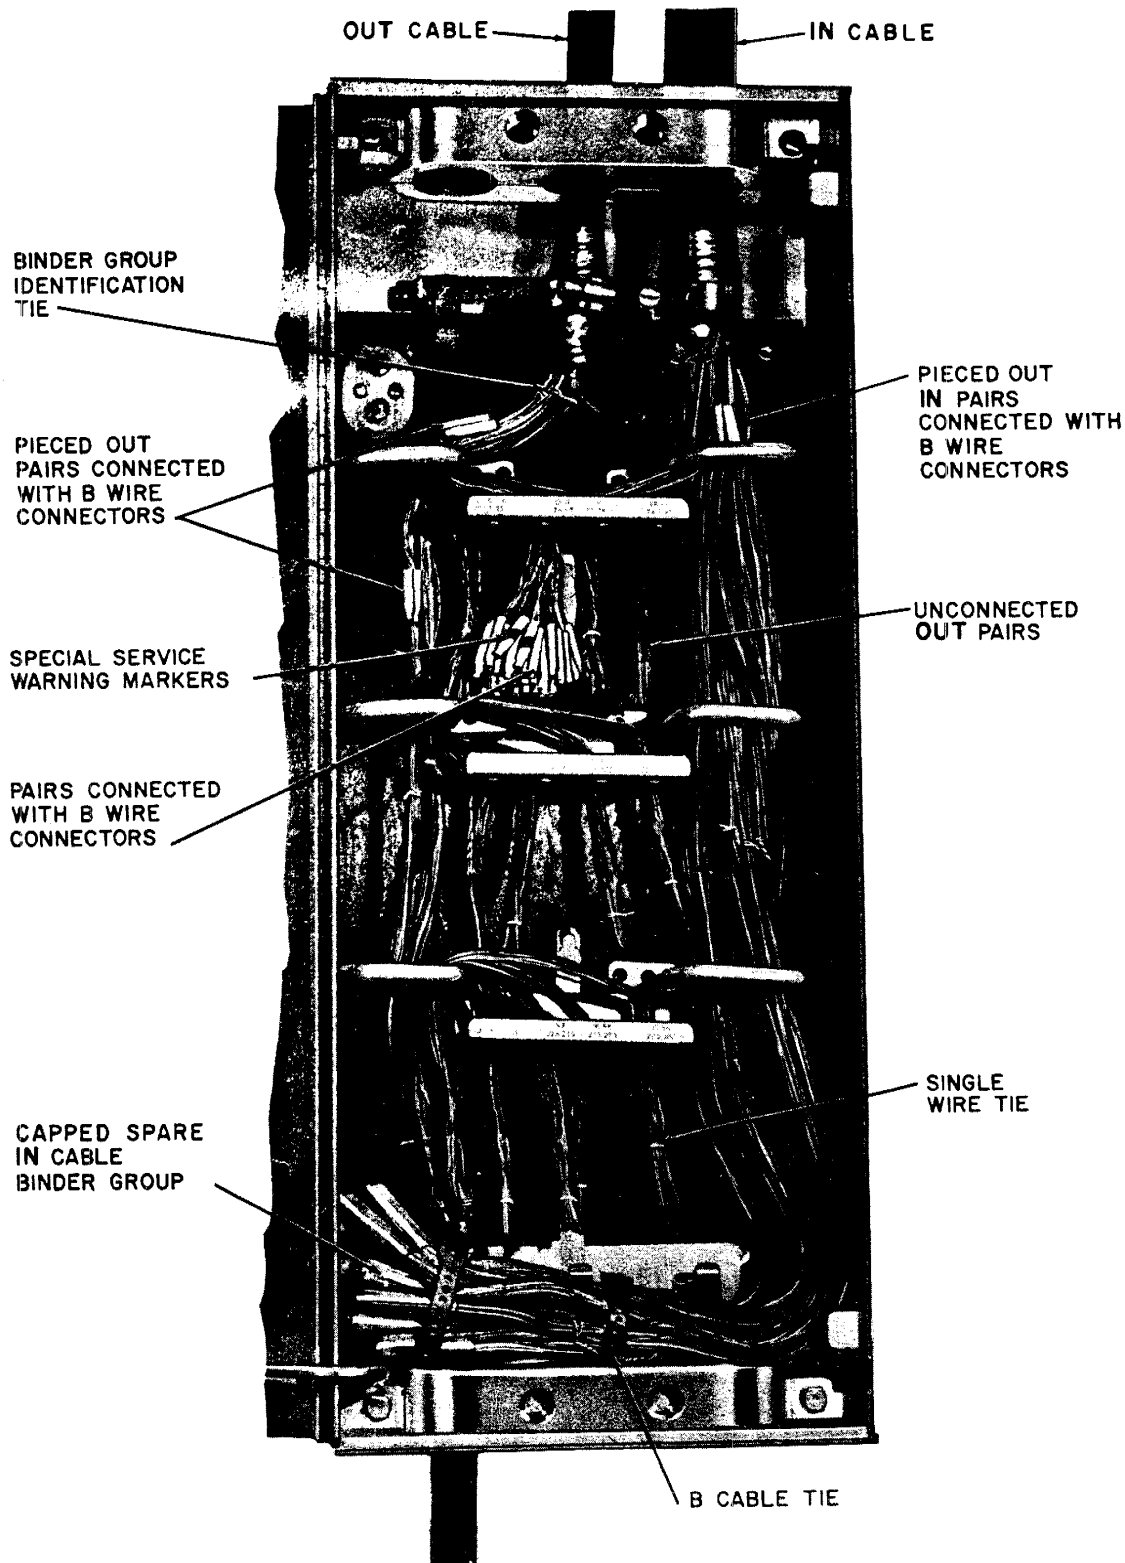
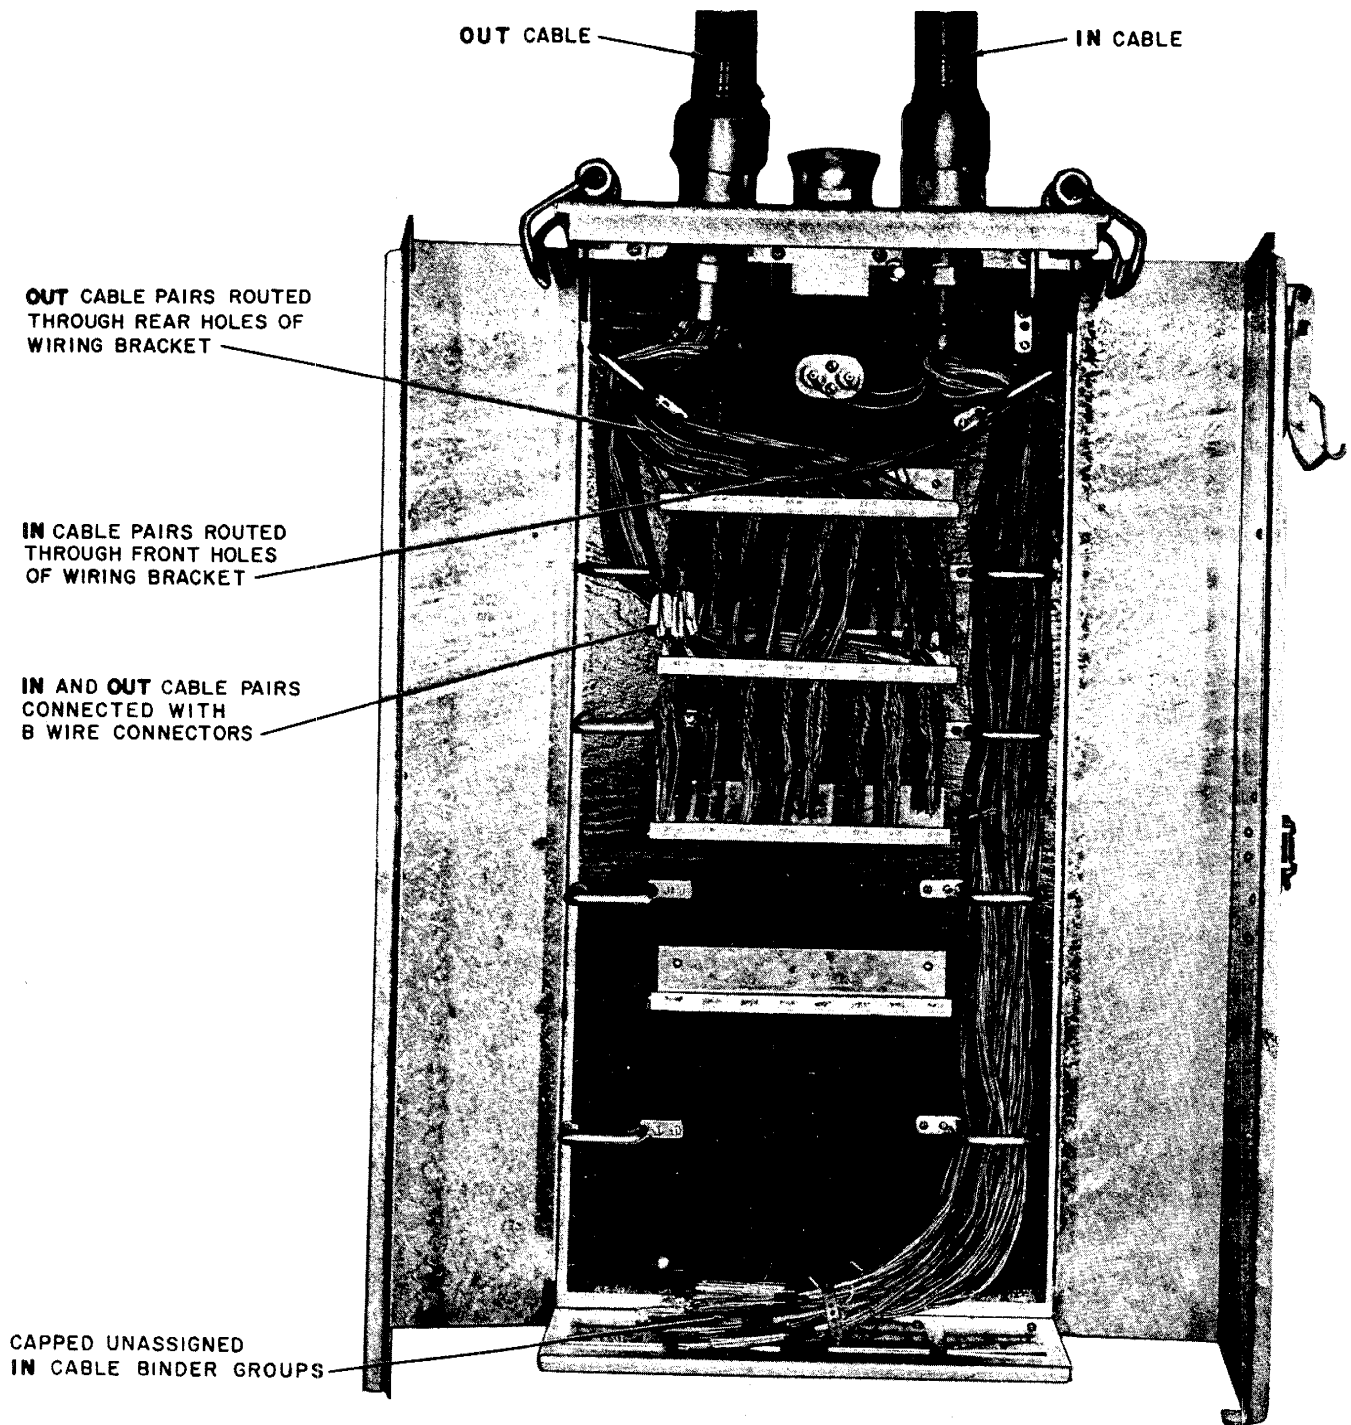

Fig. 3—5-Type Closure
Fig. 4—29-Type Cabinet
(b) *Pole- and Wall-Mounted Access Points*—The 5-type closures (Fig. 3) and the 29-type cabinets (Fig. 4) are used to enclose pole- and wall-mounted access points.
**4.01** When cable pairs are used for special services, it will be necessary to identify the circuits at the time the pairs are connected by wrapping a red warning marker tape around each B Wire Connector as shown in Fig. 3.